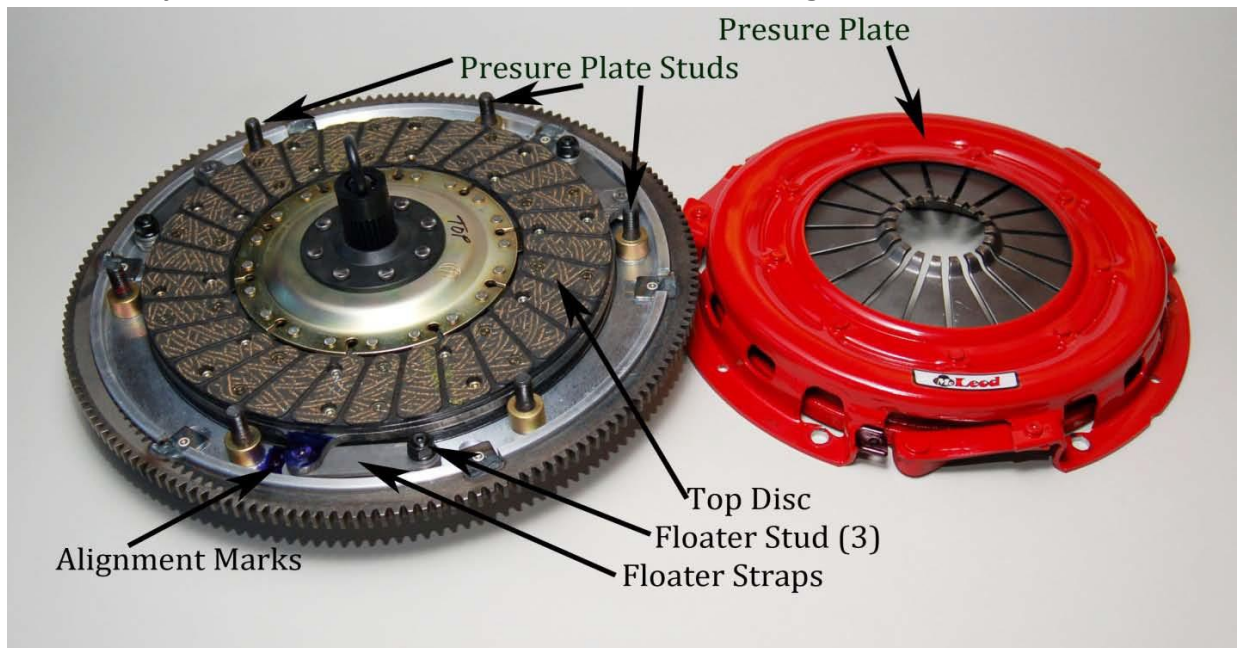

Figure 2
- 3) Remove top disc and alignment tool. Notice the hub on the disc is cupped toward the transmission. Also note the "Flywheel Side" sticker on the disc center. See Figure 2
Fig 2 shows how to remove the lever blocks while installed on the vehicle or on a bench prior to final assembly. By Placing a handle of a small hammer under the edge of the red stamped cover and the body of the handle is over the tip of the lever, you can apply pressure with your hand and remove the lever block. CAUTION!!! Should be taken not to place your fingers between the lever and the stamped steel cover at any time during this exercise. The handle could slip and catch your finger between the lever and cover incurring injury to or others.